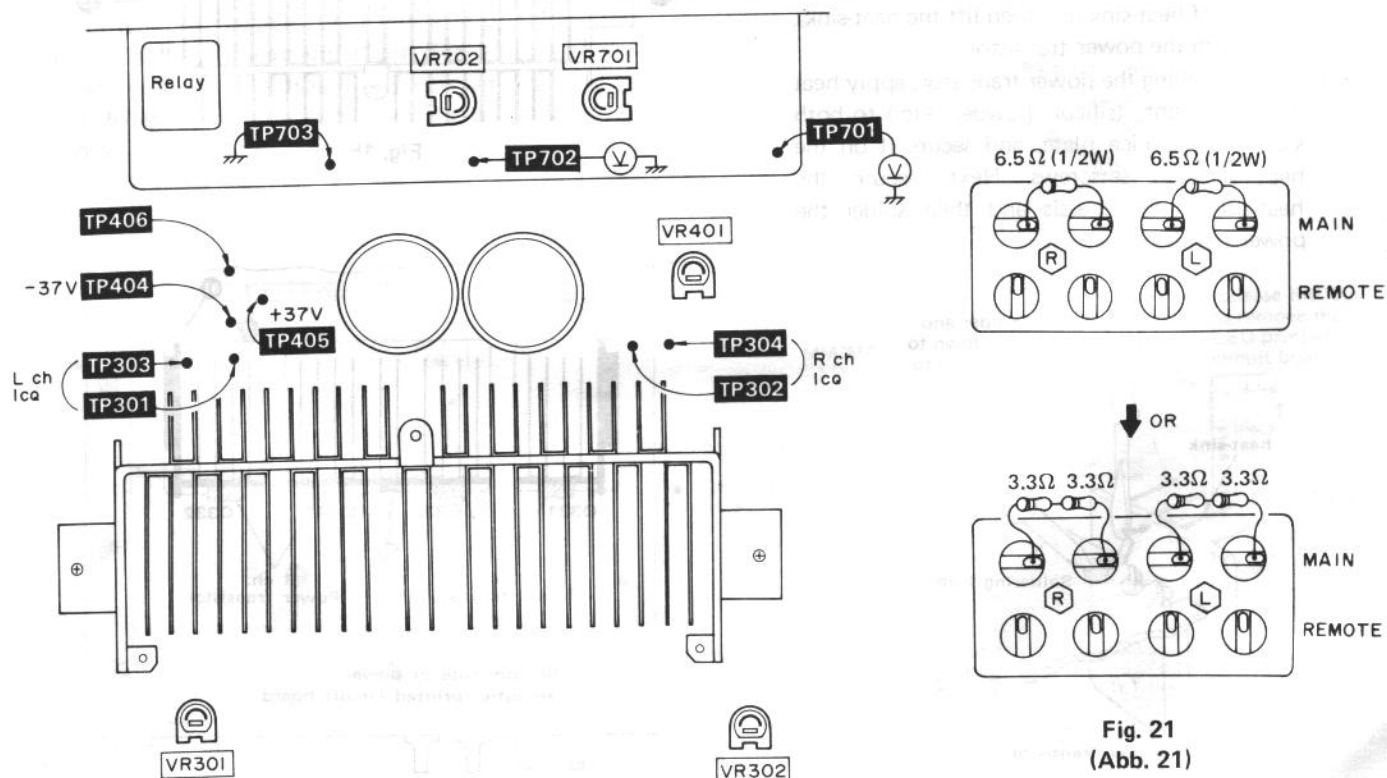

Fig. 21
(Abb. 21)
- ① Connect a load with 6.5Ω (1/2W carbon resistor) or series-connected 3.3Ω and 3.3Ω (1/2W, ±5%) to the "main" speaker terminal, (Fig. 21)
- ② Connect a DC voltmeter between TP701 and chassis, TP702 and chassis.
- ③ Connect TP703 and chassis.
- ④ Completely turn VR701 clockwise.
- ⑤ Adjust VR702 so that the voltage of TP702 is –0.1V.
- ⑥ Adjust VR701 so that the voltage of TP701 is 0V.